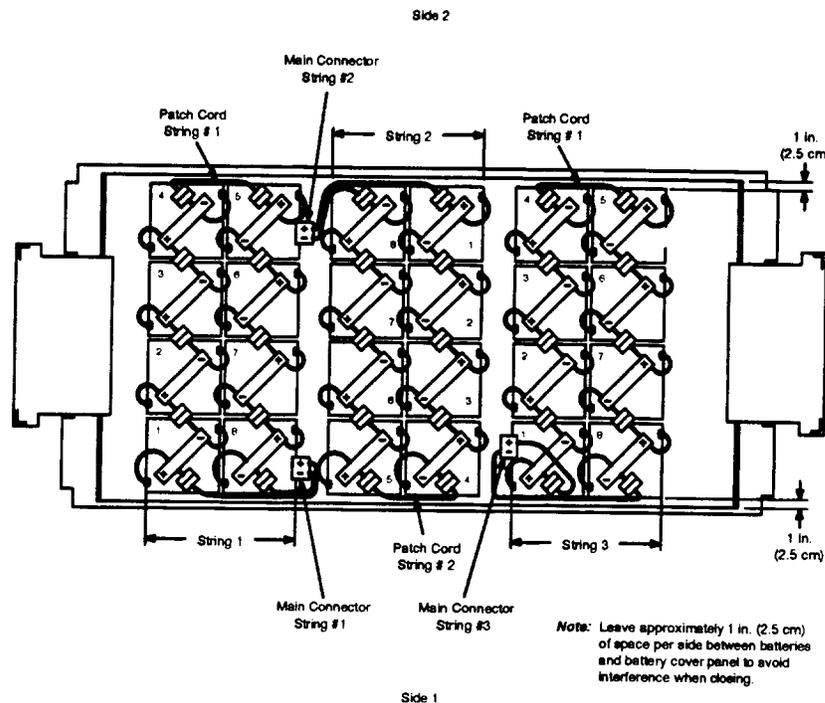

Figure 2 — RT Battery Strings and Connections
16. As shown in Figure 2, place the left 4 batteries (batteries 1 through 4 with cable assemblies) in battery compartment in position for battery string 1. Ensure the first and fourth batteries are 1 inch away from the battery compartment doors.
Connect batteries **1** through **4** together by plugging **BAT (-)** connector from one battery into **BAT (+)** connector from next battery (Figure 2).
19. Connect patch cord (Figure 2) to **BAT (-)** connector of battery **4**. Connect other end of patch cord (Figure 2) to **BAT (+)** of battery **5**.
Connect batteries **5** through **8** together by plugging **BAT (-)** connector from one battery into **BAT (+)** connector from next battery (Figure 2).